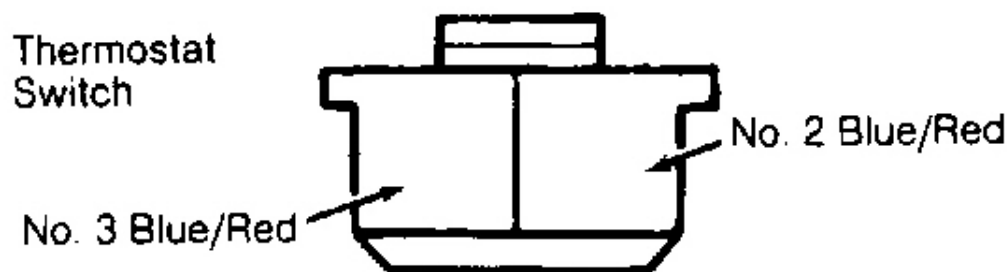

Fig. 3: Identifying Thermostat Switch Wires
6. Disconnect thermostat switch connector. Connect jumper wire between No. 2 Blue/Red wire terminal and ground. See **Fig. 3** . Turn ignition on. If both fans do not come on, repair open in No. 2 Blue/Red wire between dual pressure switch and thermostat switch.
compressor and both fans do not run, repair open in No. 2 Blue/Red wire between dual pressure and thermostat switches. If the compressor and both fans run, connect a jumper wire between No. 2 and No. 3 Blue/Red wire terminals. See **Fig. 3**.